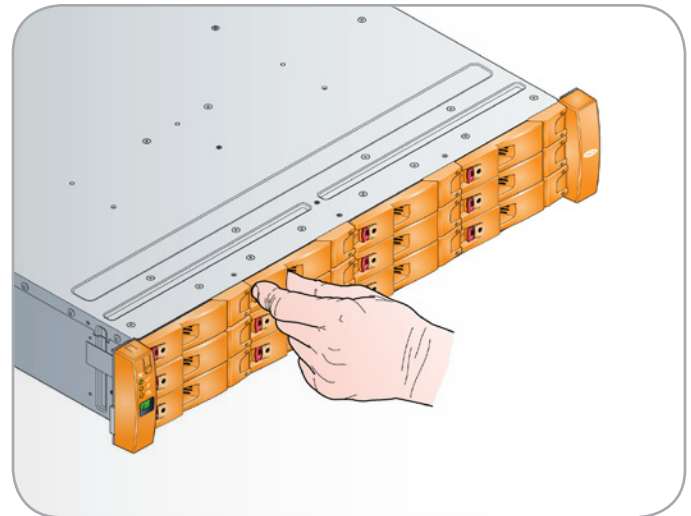
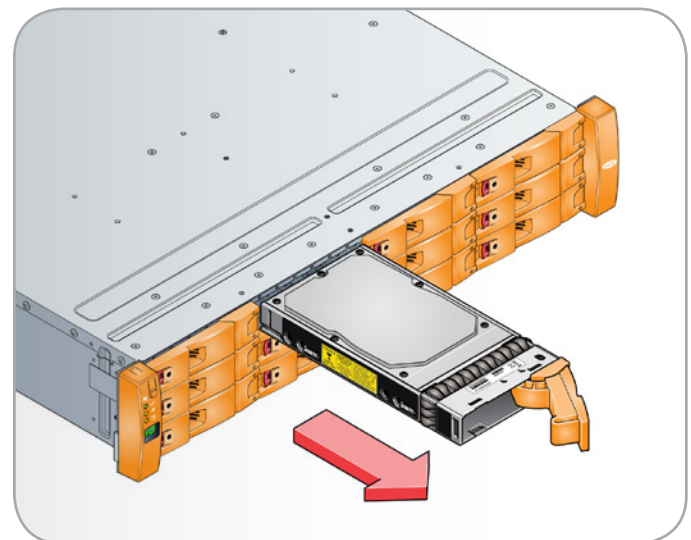

Fig. 34 - Unlatching a Drive Carrier Module
Fig. 35 - Removing a Drive Carrier Module
3. Release the Drive Carrier module handle by pressing the latch in the handle with your finger and rotating the handle towards the right (Fig. 34 and Fig. 35).